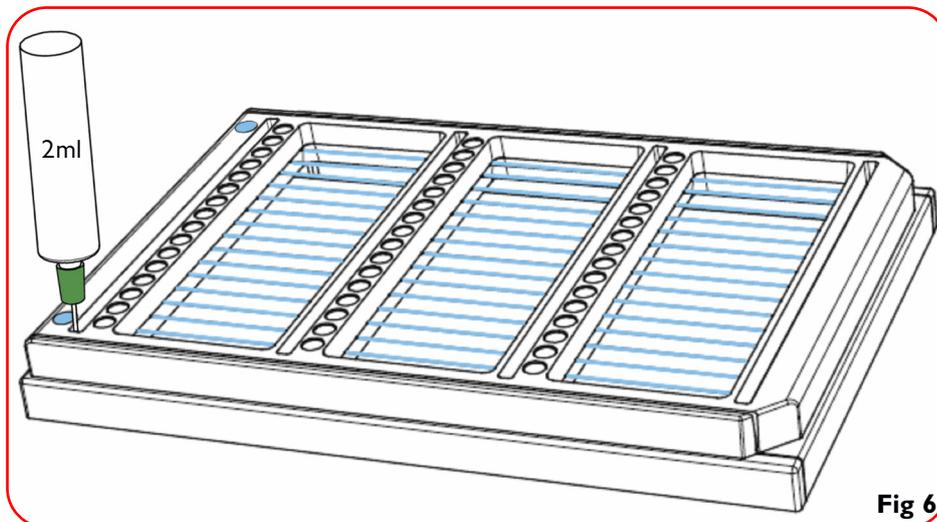

Figure 6
6. Break each of the 16 capillaries in the first long trough #1 with the 2ml syringe and flat green nozzle for capillary cleaving. (**Figure 6**).